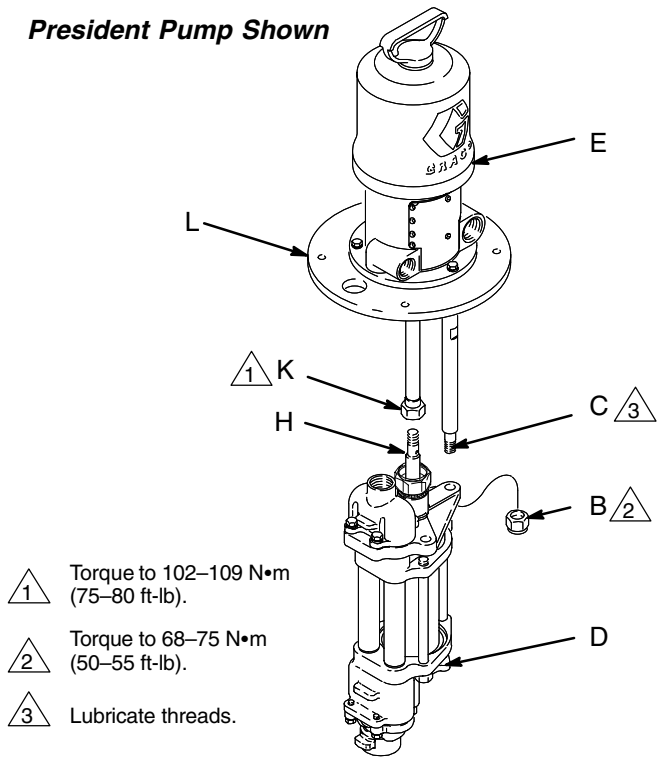
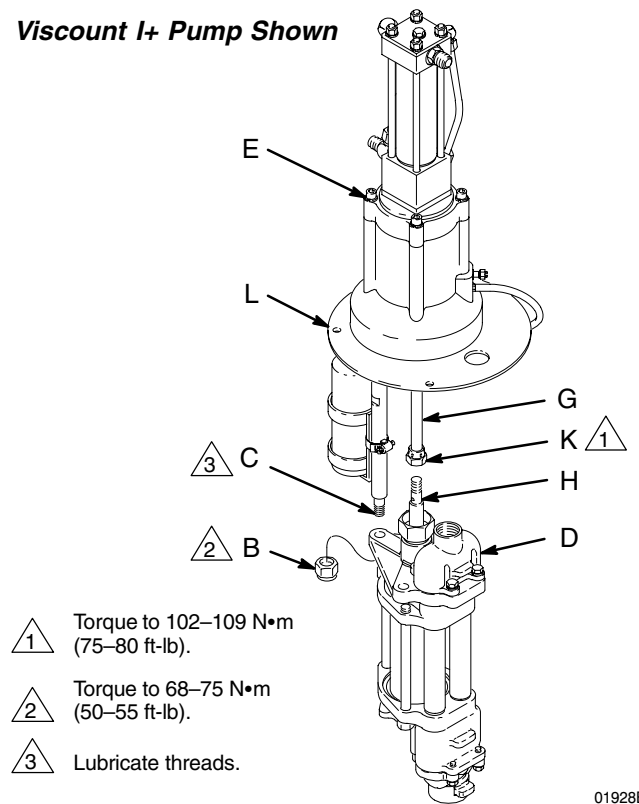

Fig. 8
Fig. 9
- **For President (Fig. 8) and Viscount (Fig. 9) pumps:** Unscrew the coupling nut (K) from the piston rod (H). Unscrew the locknuts (B) from the tie rods (C). Pull the displacement pump (D) off the motor (E).
- For President (Fig. 8) and Viscount (Fig. 9) pumps:
- *President and Viscount Pumps:* See Figs. 9 and 10. Unscrew the coupling nut (K) from the piston rod (H). Unscrew the coupling rod (G) from the air motor and set it aside.